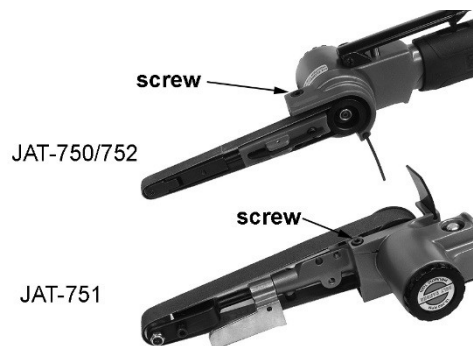

Figure 1
1. Adjust arm to desired angle and tighten hex socket cap screw (Figure 1), with supplied hex wrench. Make sure arm assembly is fitted closely to housing shoulder.
2. Loosen hex cap screw (See Figure 1), turn arm 90-degrees to the handle, and tighten screw to lock.
2. Loosen hex cap screw (see Figure 1), turn head 90-degrees to the handle, and tighten screw to lock.